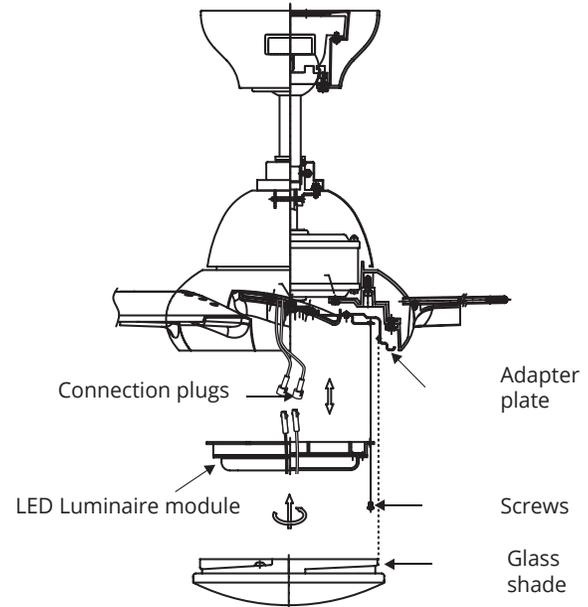

FIGURE 20
2. Raise and hold the LED luminaire module close to the adapter plate and proceed to secure the wire connections. Connect the white wire connector from the luminaire module to the white wire of the fan. Follow the same procedure with the black wire connectors. (Fig. 20)
3. Tuck connections neatly into adapter plate. Place the luminaire module key holes over the 2 screws previously loosened from the mounting ring, turn luminaire module until it locks in place at the narrow section of the key holes. Secure by tightening the 2 screws previously loosened and the one previously removed. (Fig. 20)